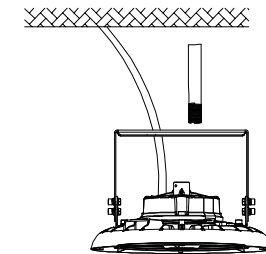

Figure 9
2. Insert the 1/2" NPT stem into the bracket hole (refer to Figure 9).